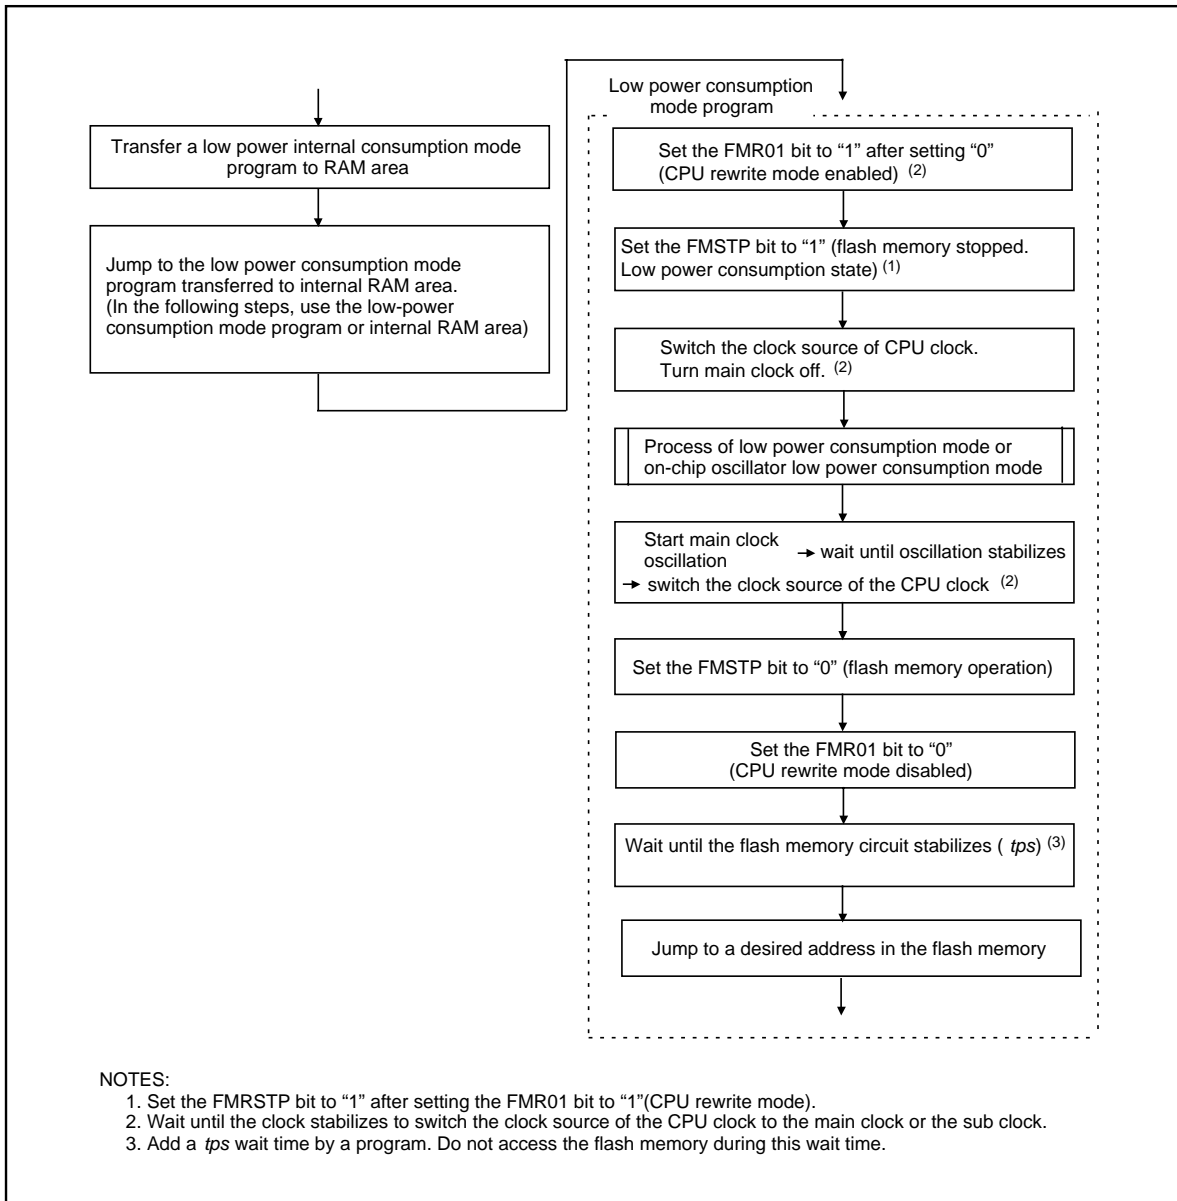

Figure 18.11 Processing Before and After Low Power Dissipation Mode
**Figure 18.11** shows a flow chart illustrating how to start and stop the flash memory before and after entering low power mode. Follow the procedure in this flow chart.